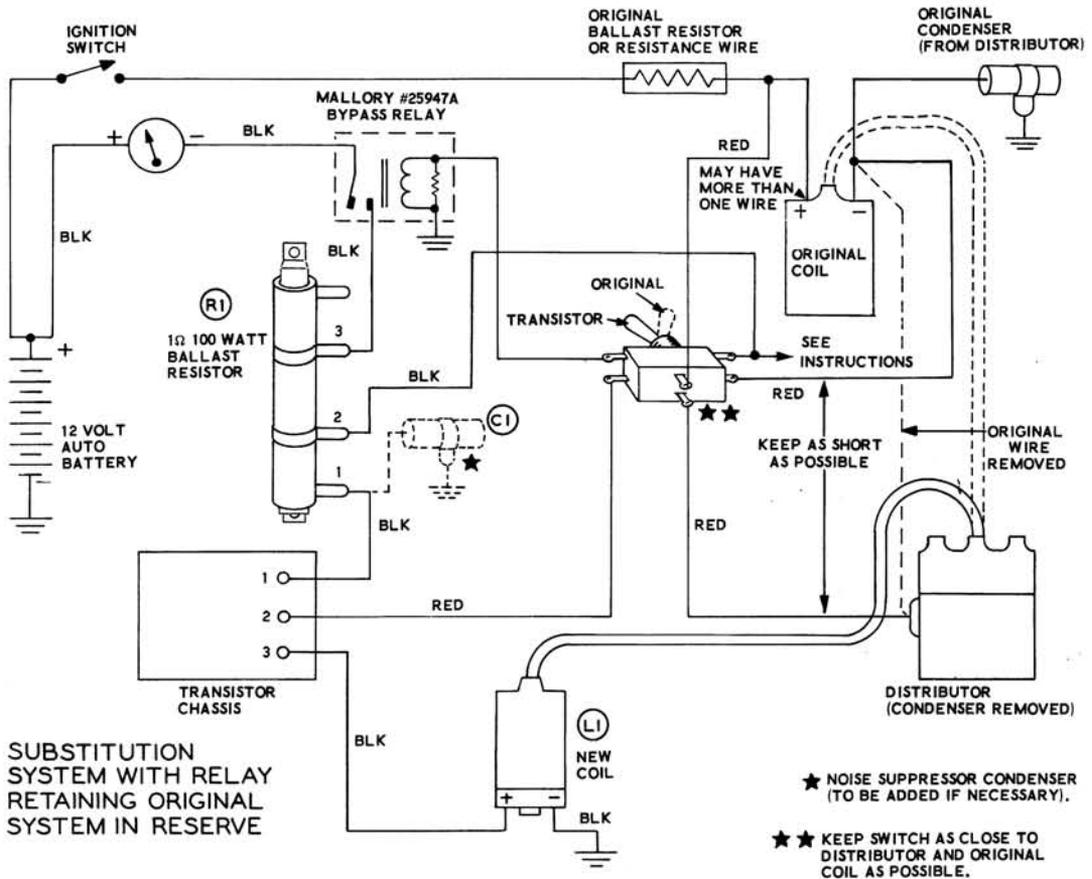

Figure 4
- () There is a point in the original ignition system where battery voltage is present only when the ignition switch is in the START position. This point is usually located either on the back of the ignition switch or at the starter solenoid contacts (not at both points). There will already be a wire connected to this point. This wire is the one used to bypass the ballast resistor of the original ignition system and apply battery voltage directly to the original ignition coil only during the start cycle. If you use the circuit shown in Figure 4, disconnect this wire from the point just described, and tape up the end.
- () For the circuit shown in Figure 4, connect a wire from this point in the original system, to the switch. Then connect a wire from the same lug of the switch to movable contact 2 of the ballast resistor, and solder.